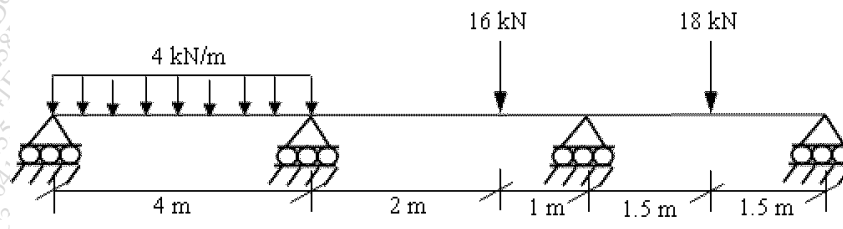

Figure 6
Q. 4 Analyse the continuous beam as shown in figure 6 using Slope Deflection method and hence draw SFD and BMD. EI = constant. **L 4**